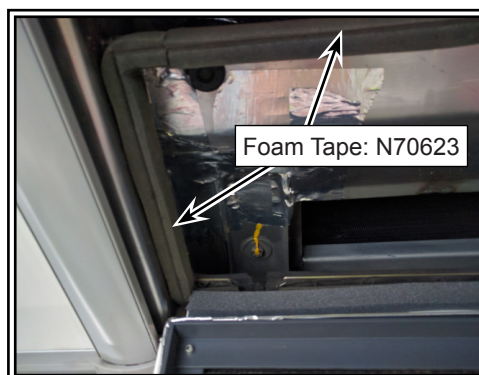

Figure 3 - Installation of Foam Tape
1.5. Inspect seal integrity around the perimeter of the structure and replace if missing, damaged or loose (see Figure 3).